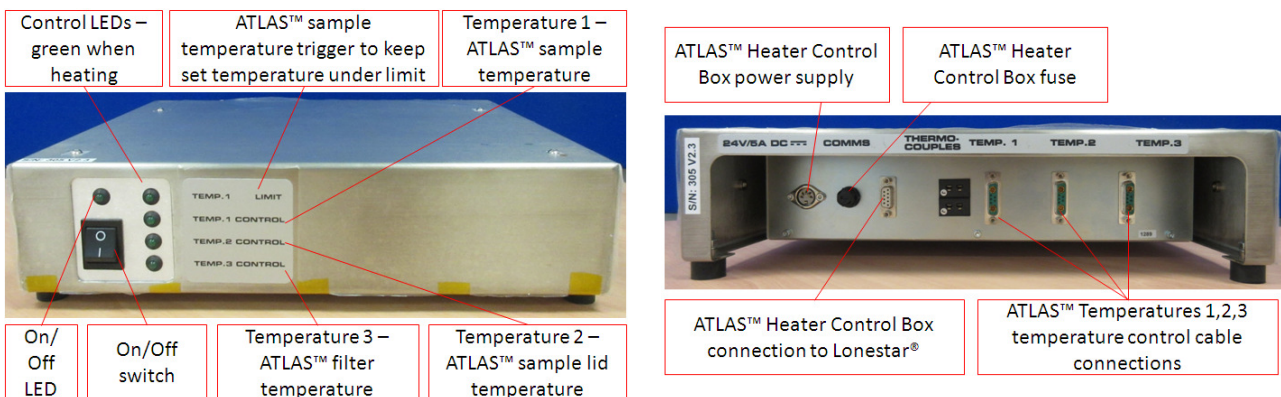

Figure 6 ATLAS™ Heater Control Box front view (left) and back view (right)
- The ATLAS™ Heater Control Box (Figure 6).